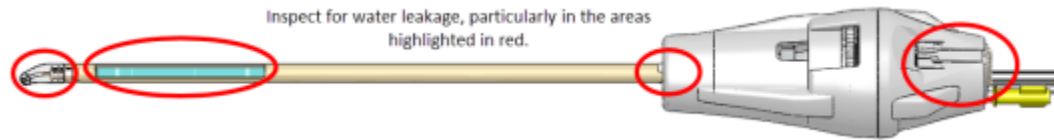

Figure 21: Areas to inspect for water leaks in the UA
7. **Urologist:** Closely inspect the UA along the length of the shaft for any water leakage, paying attention to the areas of interest shown in *Figure 21*. If you see water, the UA is defective and must not be used.